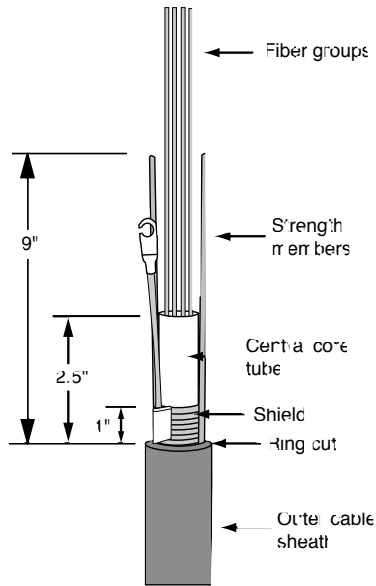

Fig. 6
2. If dual strength members (e.g., LXE) or multiple metallic strength members (e.g., crossply) are present, expose each strength member and cut it off 9" from the ring cut. (Figure 6)
4. If metal shield is present, remove all but 1" of the metal shield. (Figure 6) Pry open a 1" tab in the exposed metal shield where the shield overlaps. Crimp the bond clamp onto the edge of the shield.
6. Cut the central core tube 2-1/2" from the ring cut (1-1/2" beyond the metal shield if present) and remove the excess tube. (Figure 6)